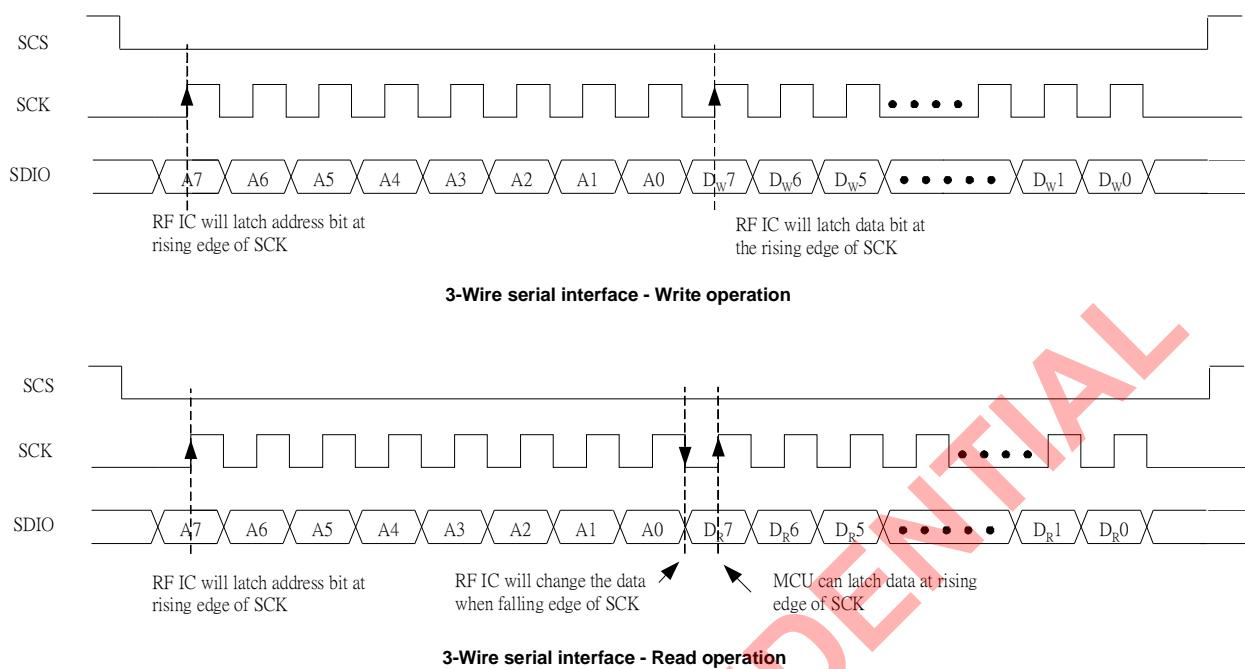
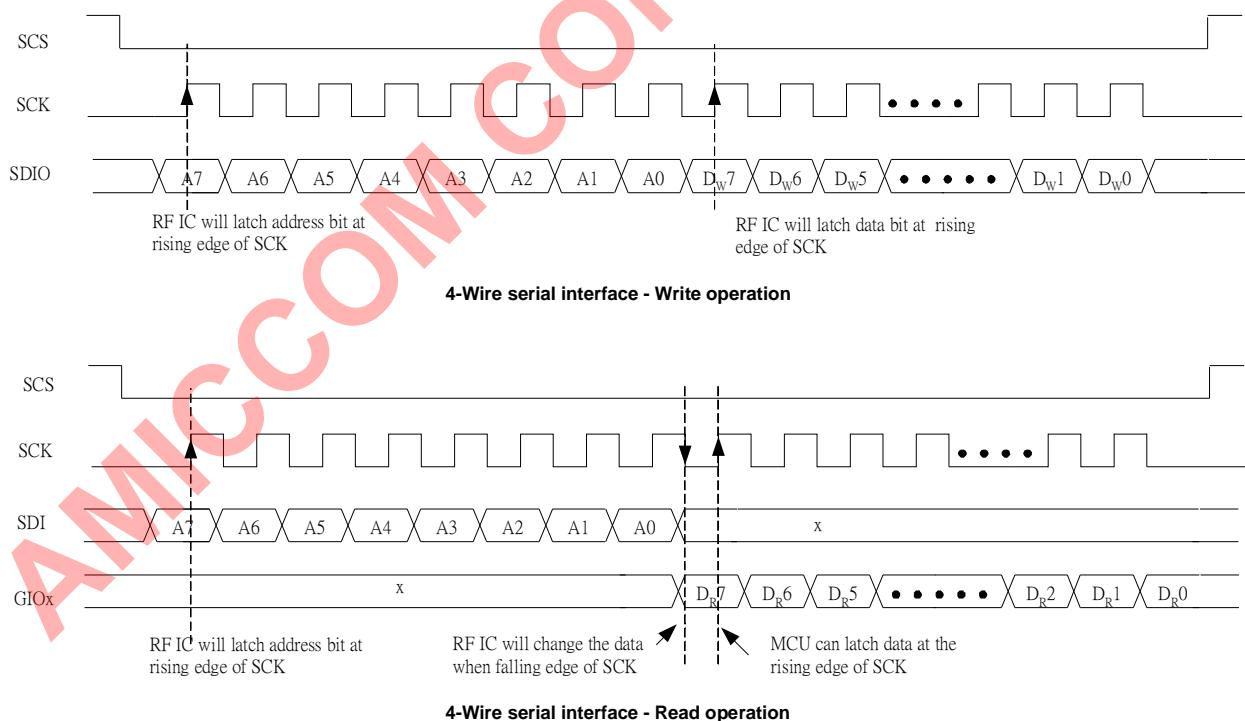

Figure 10.2 Read/Write Timing Chart of 3-Wire SPI
Figure 10.3 Read/Write Timing Chart of 4-Wire SPI
The first bit (A7) is critical to indicate A7125 the following instruction is “Strobe command” or “control register”. See Table 10.1 for SPI format. Based on Table 10.1, if A7=0, A7125 is informed for control register accessing. So, A6 bit is used to indicate read (A6=1) or write operation (A6=0). See Figure 10.2 and Figure 10.3 for details.
**Bit [7:0]:** SPI input or output data, see Figure 10.2 and Figure 10.3 for details.
User can refer to Figure 10.2 for SPI write timing chart. Below is the procedure of ID write command.
User can refer to Figure 10.2 for SPI read timing chart in details. Below is the procedure of ID read command.